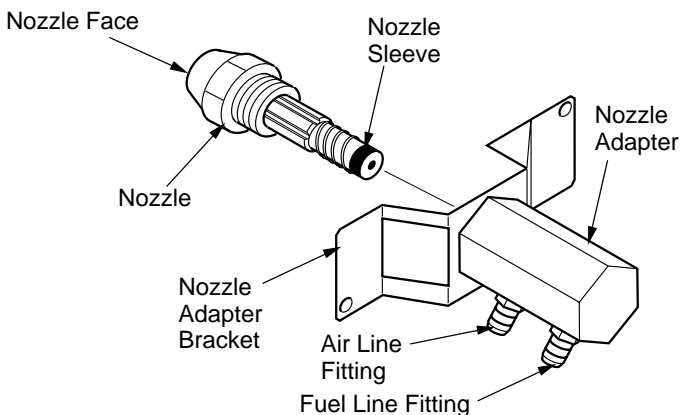

Figure 27 - Nozzle and Nozzle Adapter
5. Carefully remove nozzle from nozzle adapter using 5/8" socket wrench (see Figure 27).